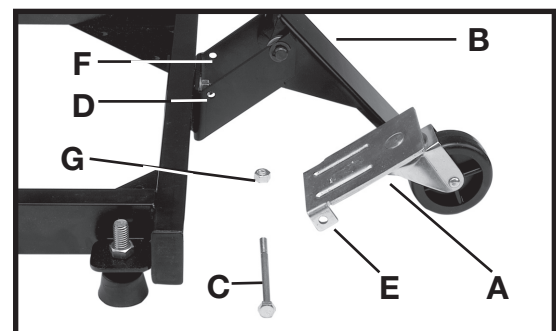

Fig. 5
2. Attach caster assembly (A) Fig. 5 to mobile base bracket (B). Insert the 5/16-18 x 4" hex head screw (C) through the first hole (D) in the foot lever assembly, the two holes in caster assembly (E) (one shown), and the other hole (F) in the foot lever assembly. Thread 5/16-18 locknut on screw and tighten securely.